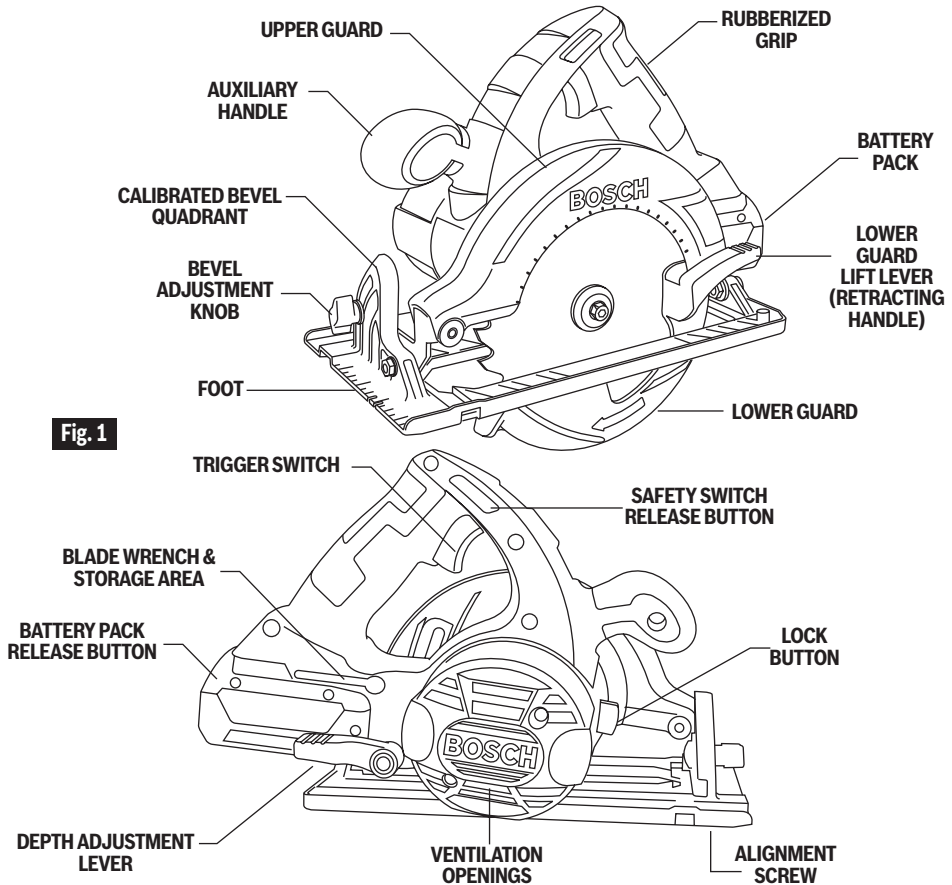

Fig. 1
Slide charged battery pack into the housing until the battery pack locks into position (Fig. 1).
Press the battery pack release button again and slide the battery pack completely out of tool housing (Fig. 1).
1. Turn BLADE STUD clockwise and remove BLADE STUD and OUTER WASHER (Fig. 2). If the shaft moves while attempting to loosen the blade stud press the lock button (Fig. 1).